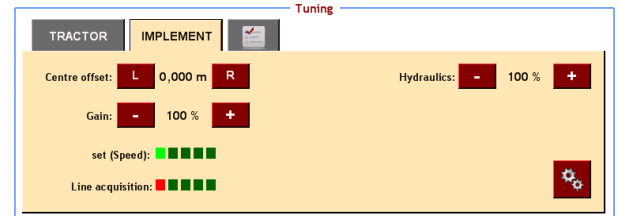

Figure 35 Vehicle Tuning
**i** The user can adjust the gain and the hydraulics in SBGuidance under Settings > Vehicle > Tuning > tab page Implement) (Figure 35).